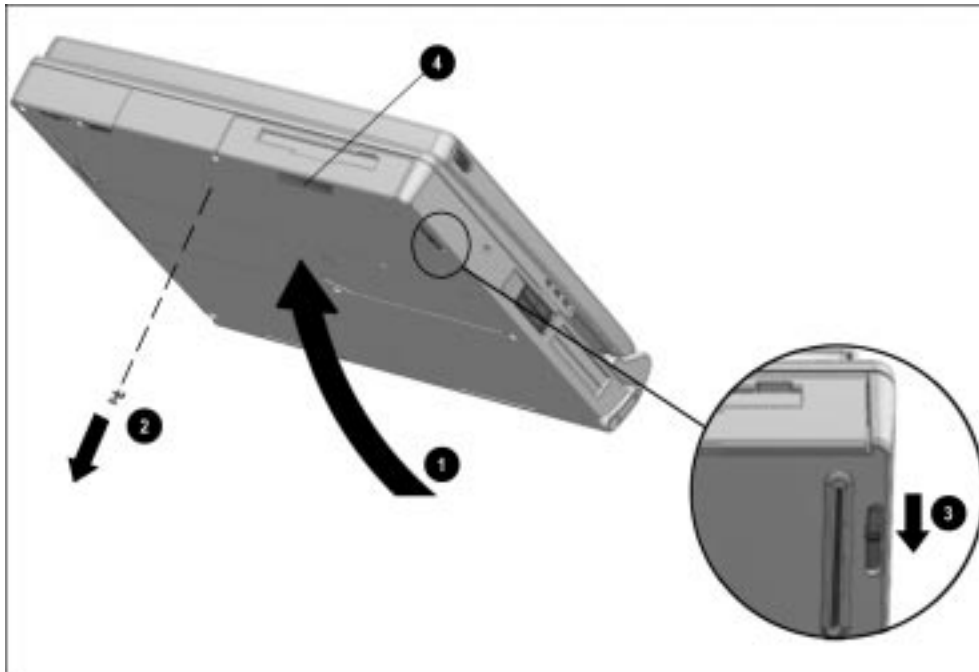

Figure 5-22. Releasing a Drive from the MultiBay
3. Tilt the computer at an angle ❶ so the bottom of the computer is accessible (Figure 5-22).
4. If the drive has been secured in the MultiBay with a single- or dual-bay security screw ❷, remove the screw with the security wrench included with the computer.
5. Slide the MultiBay release latch ❸ toward the back of the computer.
6. Grasp the drive using the recess ❹ beneath the MultiBay.